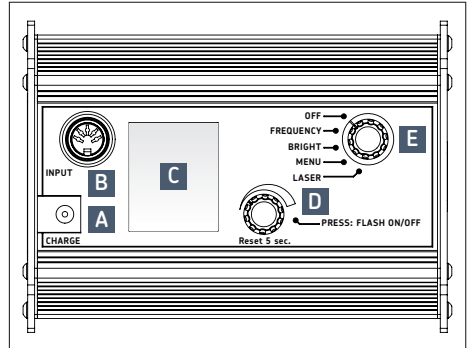

Fig.1 – Stroboscope SKF TKRS 41
### 5.1 Connectors (→ fig. 1)
1. Charge the device: plug the charger into the CHARGE socket (A) to the rear of the device (→ fig. 1).
2. Direct the device at a moving object and switch on. Turn the selector switch (E) one notch to the left to "FREQUENCY".